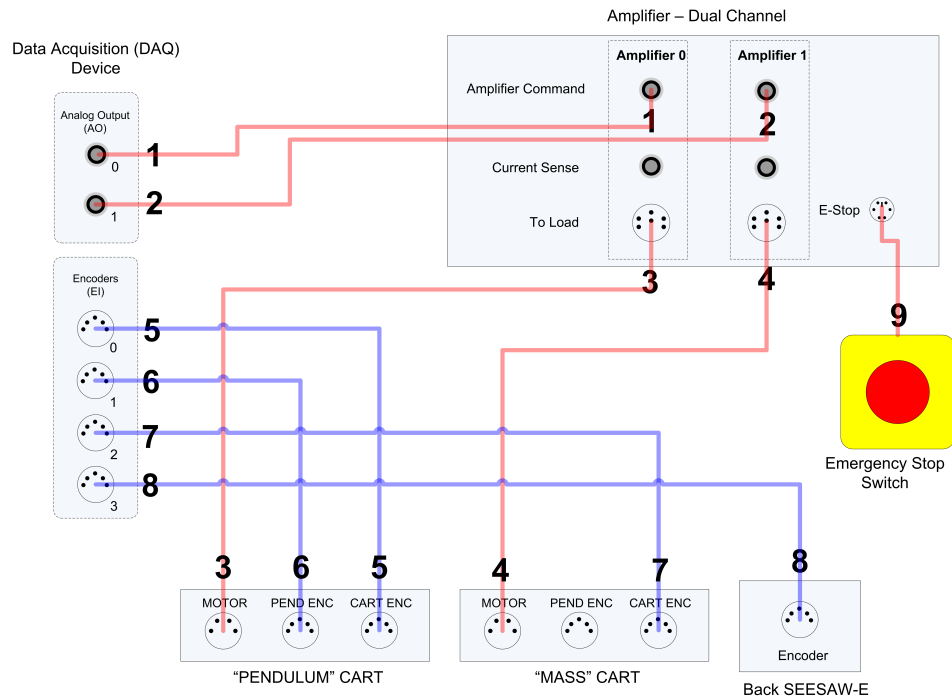

Figure 5.1: Seesaw Pendulum Wiring Diagram
The connections are given in Table 5.2 and illustrated in Figure 5.1. The detailed wiring procedure is given below.
3. Connect one of the 2x RCA to 2x RCA cable from the *Analog Output Channel #0* on the Data Acquisition Device to the *Amplifier Command #0* Connector on the Quanser amplifier. See cable #1 shown in Figure 5.1. This carries the attenuated motor voltage control signal.
4. Connect another 2x RCA to 2x RCA cable from the *Analog Output Channel #1* on the Data Acquisition Device to the *Amplifier Command #1* Connector on the Quanser amplifier. See cable #2 shown in Figure 5.1. This carries the attenuated motor voltage control signal.
5. Connect the 4-pin-stereo-DIN to 6-pin-stereo-DIN from *To Load* on the amplifier #0 to the *Motor* connector on the "pendulum cart". See connection #3 shown in Figure 5.1. The cable transmits the amplified voltage that is applied to the IP02 motor.
6. Connect the 4-pin-stereo-DIN to 6-pin-stereo-DIN from *To Load* on the amplifier #1 to the *Motor* connector on the "mass cart". See connection #4 shown in Figure 5.1. The cable transmits the amplified voltage that is applied to the IP02 motor.
7. Connect the 5-pin-stereo-DIN to 5-pin-stereo-DIN encoder cable from the *Cart Encoder* connector on the "pendulum cart" to *Encoder Input #0* on the Data Acquisition Device, as depicted by connection #5 in Figure 5.1. This carries the cart position measurement.
8. Connect the 5-pin-stereo-DIN to 5-pin-stereo-DIN encoder cable from the *Pendulum Encoder* connector on the "pendulum cart" to *Encoder Input #1* on the Data Acquisition Device, as depicted by connection #6 in Figure 5.1. This carries the shaft angular position measurement.
9. Connect the 5-pin-stereo-DIN to 5-pin-stereo-DIN encoder cable from the *Cart Encoder* connector on the "mass cart" to *Encoder Input #2* on the Data Acquisition Device, as depicted by connection #7 in Figure 5.1. This carries the cart position measurement.
10. Connect the 5-pin-stereo-DIN to 5-pin-stereo-DIN encoder cable from the *encoder* connector on the "back SEESAW-E" to the *Encoder Input #3* on the Data Acquisition Device, as depicted by connection #8 in Figure 5.1. This carries the SEESAW-E pivot angular position.